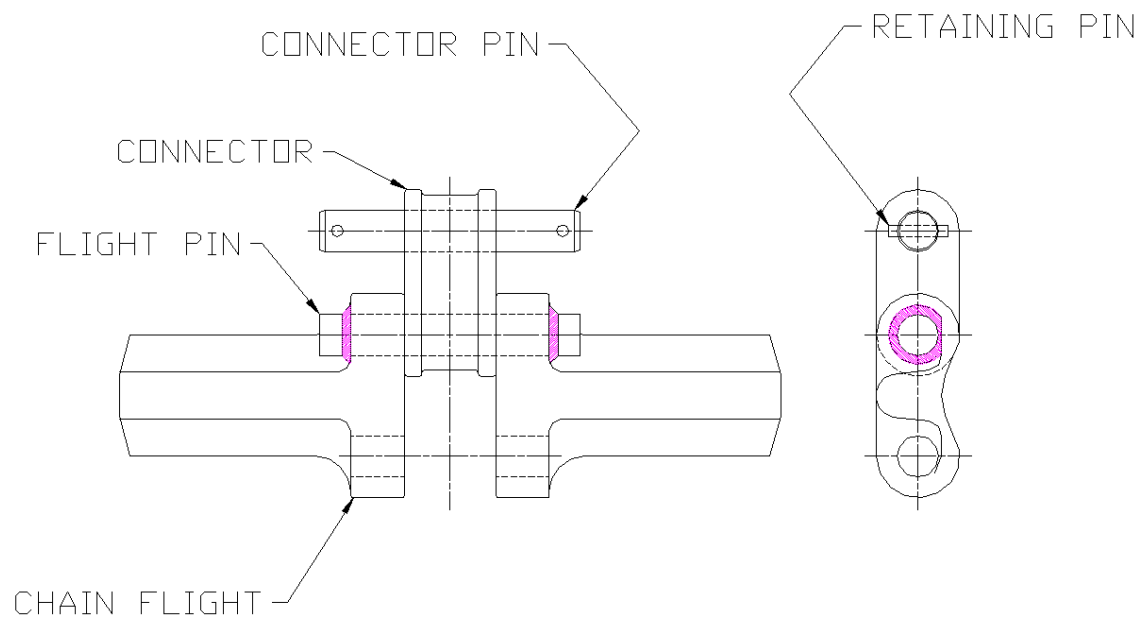

Figure 6.8
6. Rejoin chain using connecting pin and fit retaining pins. See figure 6.8